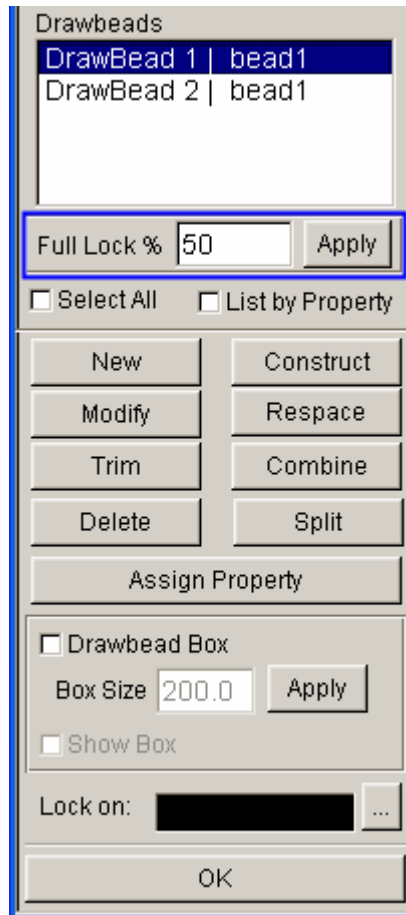

Figure 3.57: DrawBead dialog box
- 5) New drawbeads named DrawBead1 and DrawBead2 are added to the list. Then use mouse cursor to pick DrawBead1 from the drawbead list. Type in 50 (%) in the input data field of Full Lock% and press Apply button. DrawBead2 is the same to DrawBead1. See figure 3.57.